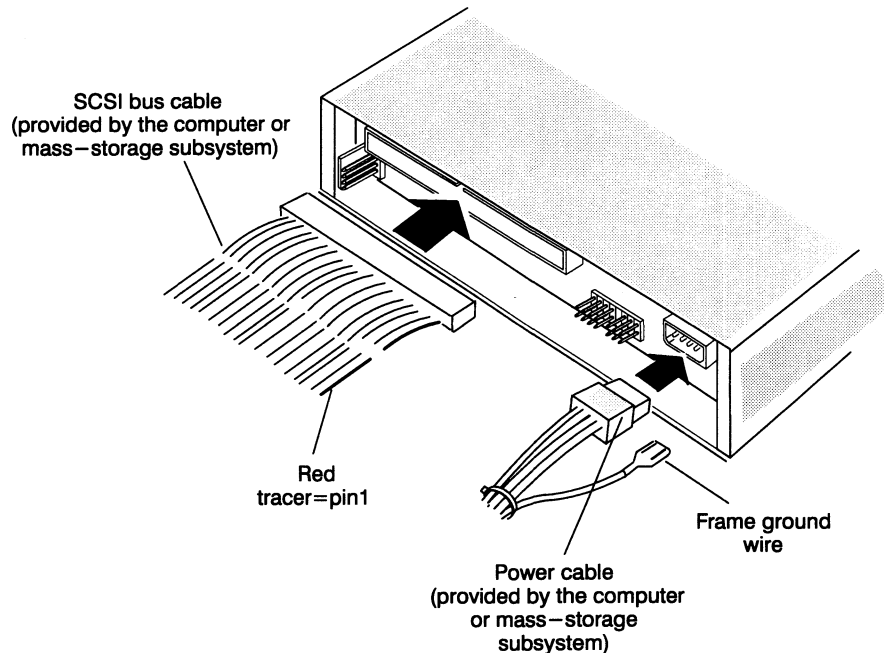

Figure 6 Connecting cables to the CD-ROM drive
3. Plug the SCSI bus cable provided by the computer or mass-storage subsystem into the SCSI bus connector on the back of the CD-ROM drive. (Figure 6).
4. Connect the power cable to the power connector on the drive (Figure 6).